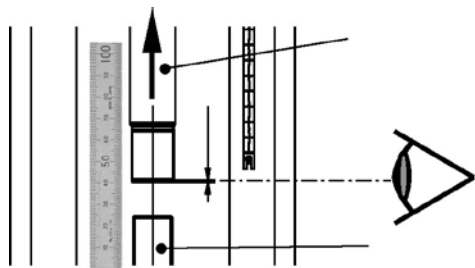

Figure 7 - 51/52/53 Cylinder Actuator
- Connect manual loading panel tubing to the Top Plate (17).
- Reconnect manual loading panel tubing from the Top Plate (17) to the Yoke (1), which is integrated into the bottom plate connection.
- Retract the actuator stem either pneumatically or with a handwheel approximately .1" (2mm) using the visual stroke scale as shown in Figure 7.
- Connect manual loading panel tubing to the top plate (17).
- Extend the actuator stem either pneumatically or with a handwheel approximately .1" (2mm) using the visual stroke scale as shown in Figure 7.
- Assemble the Split Clamp (22).
- Connect manual loading panel tubing to the yoke (1), which is integrated into the bottom plate connection.